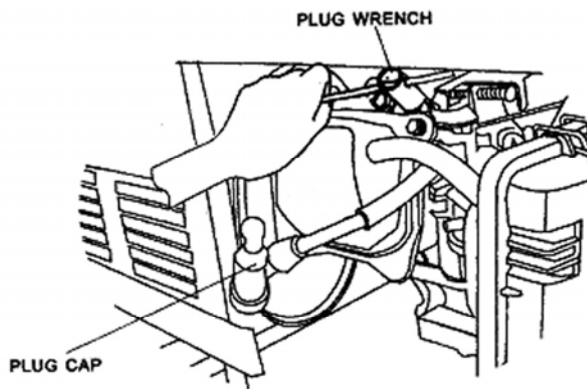

Figure 20- Removing the spark plug
2. Unscrew the spark plug from the generator using the spark plug wrench included with this product (see figure 20).